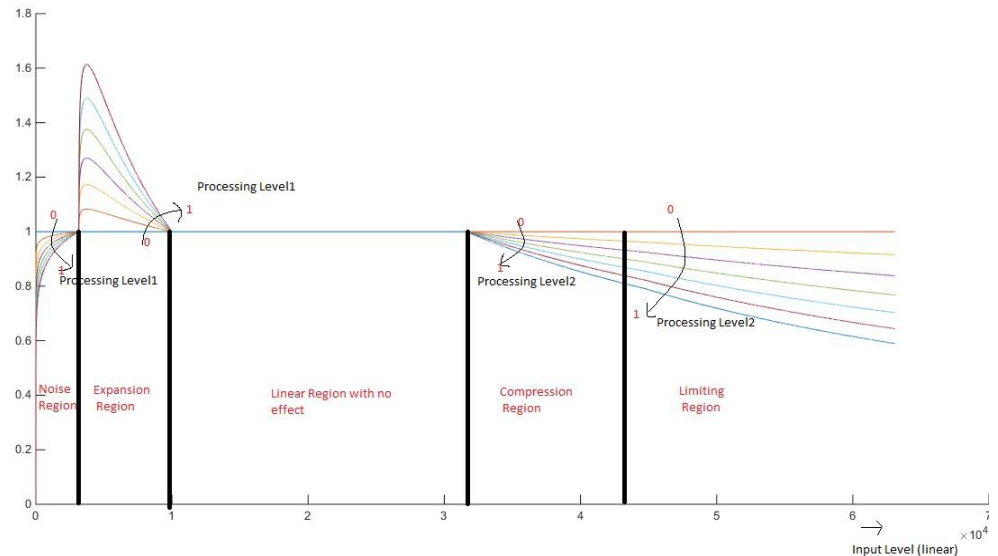

Figure 5.1.1: The configurable shape of Perceptual SoundMax™ Envelope Processing non-linearity in multiple regions
Integrated Compression/Limiting/Expansion/Noise Gating: Perceptual SoundMax™ implements all envelope processing (i.e. expansion/AGC and compression/limiting) in each of the 24 bands in a single stage. This avoids a situation where different processing stages are fighting and/or negating each other's impact - a situation common with many other processing technologies, which typically implement multi-band compression and multi-band AGC as two separate modules. The *single-stage* envelope non-linearity for each band in Perceptual SoundMax™ is illustrated in Figure 5.1.1 below. In this it may also be noted that complete flexibility is offered in setting the boundaries of each region - i.e. limiting, compression, expansion, and noise thresholds in each band are fully configurable. Moreover, the level of processing in each of the regions is also independently controllable.
- **Processing Levels:** The new V11 interface allows for independent control of processing levels of DRC for each band, in three regions of non-linearity (Figure 5.1.1): (i) compression/limiting, (ii) expansion, (iii) noise-gating. Correspondingly there are 24 sliders for compression/limiting processing level, 24 sliders expansion processing level, and 24 sliders for noise gating processing levels. The interface allows for ganging of bands and also offers a master dial for each of the 3 set of sliders. Also, changing the master DRC dial impact all processing levels equally (with saturation of individual values for maximum/minimum).